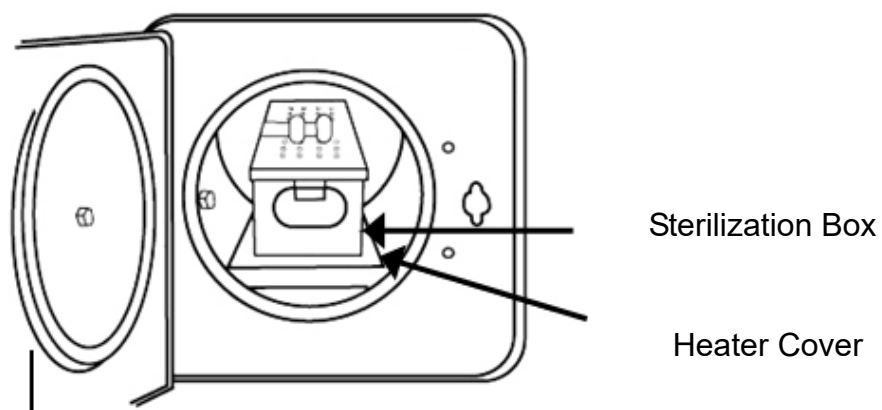

Figure 5
- C. Install the Sterilization Box as Figure 5. (standard accessory)